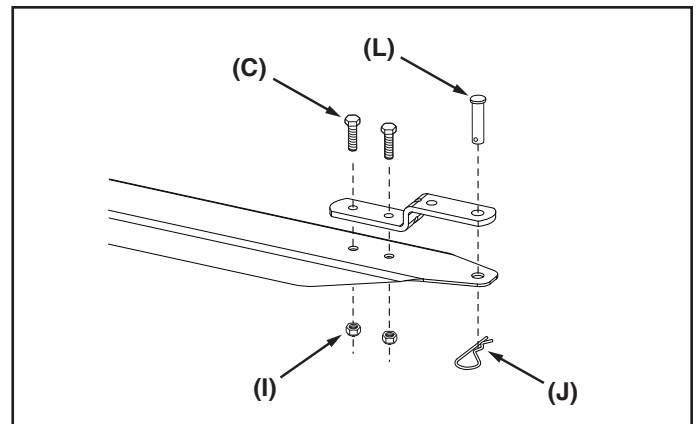

FIGURE 3
STEP 3: (SEE FIGURE 3)
- Assemble the hitch bracket to the tongue using two hex bolts (C) and hex nuts (I). **Tighten.**
- Assemble the hitch pin (L) through the tongue and hitch bracket and secure it with the hair cotter pin (J).